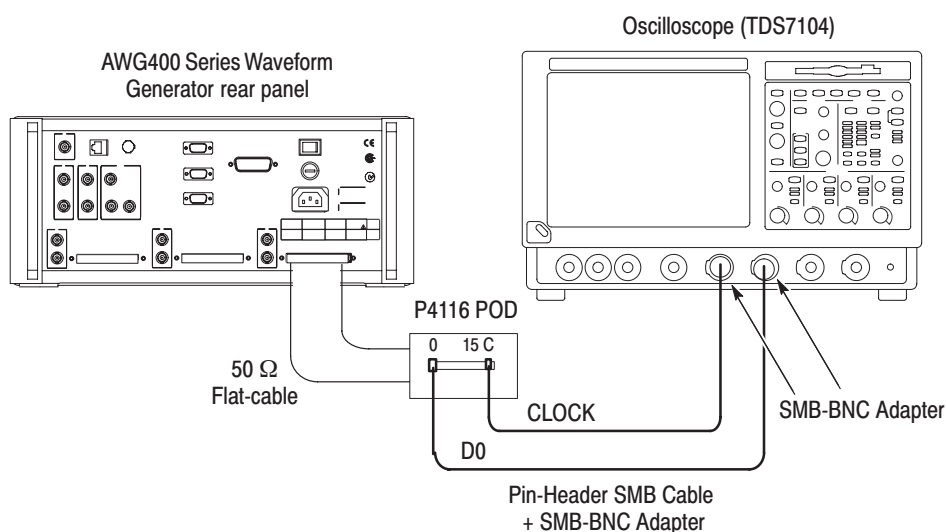

Figure 4-45: Digital data output level initial test hookup
- a. Connect CH1 DIGITAL DATA OUT through the flat cable to P4116. See Figure 4-45.